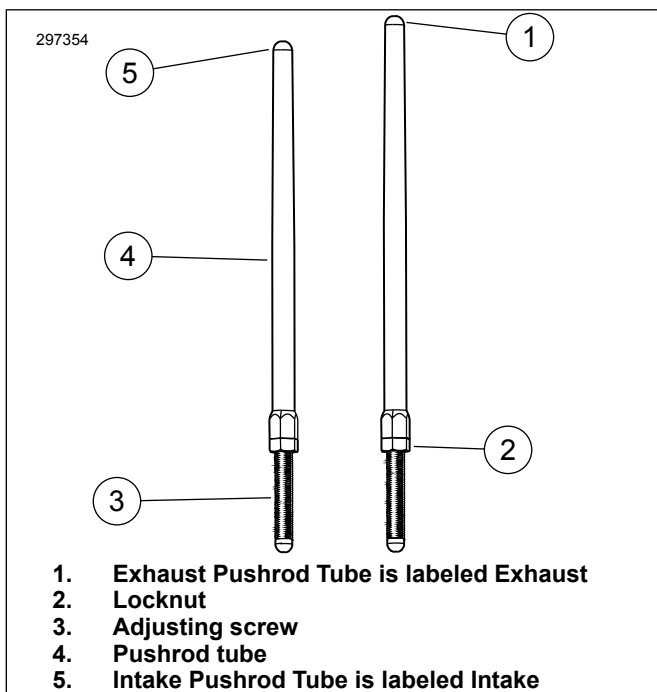

Figure 1. Adjustable Pushrod
6. Figure 1 Loosen locknut on all of the pushrods and adjust them to their shortest length.